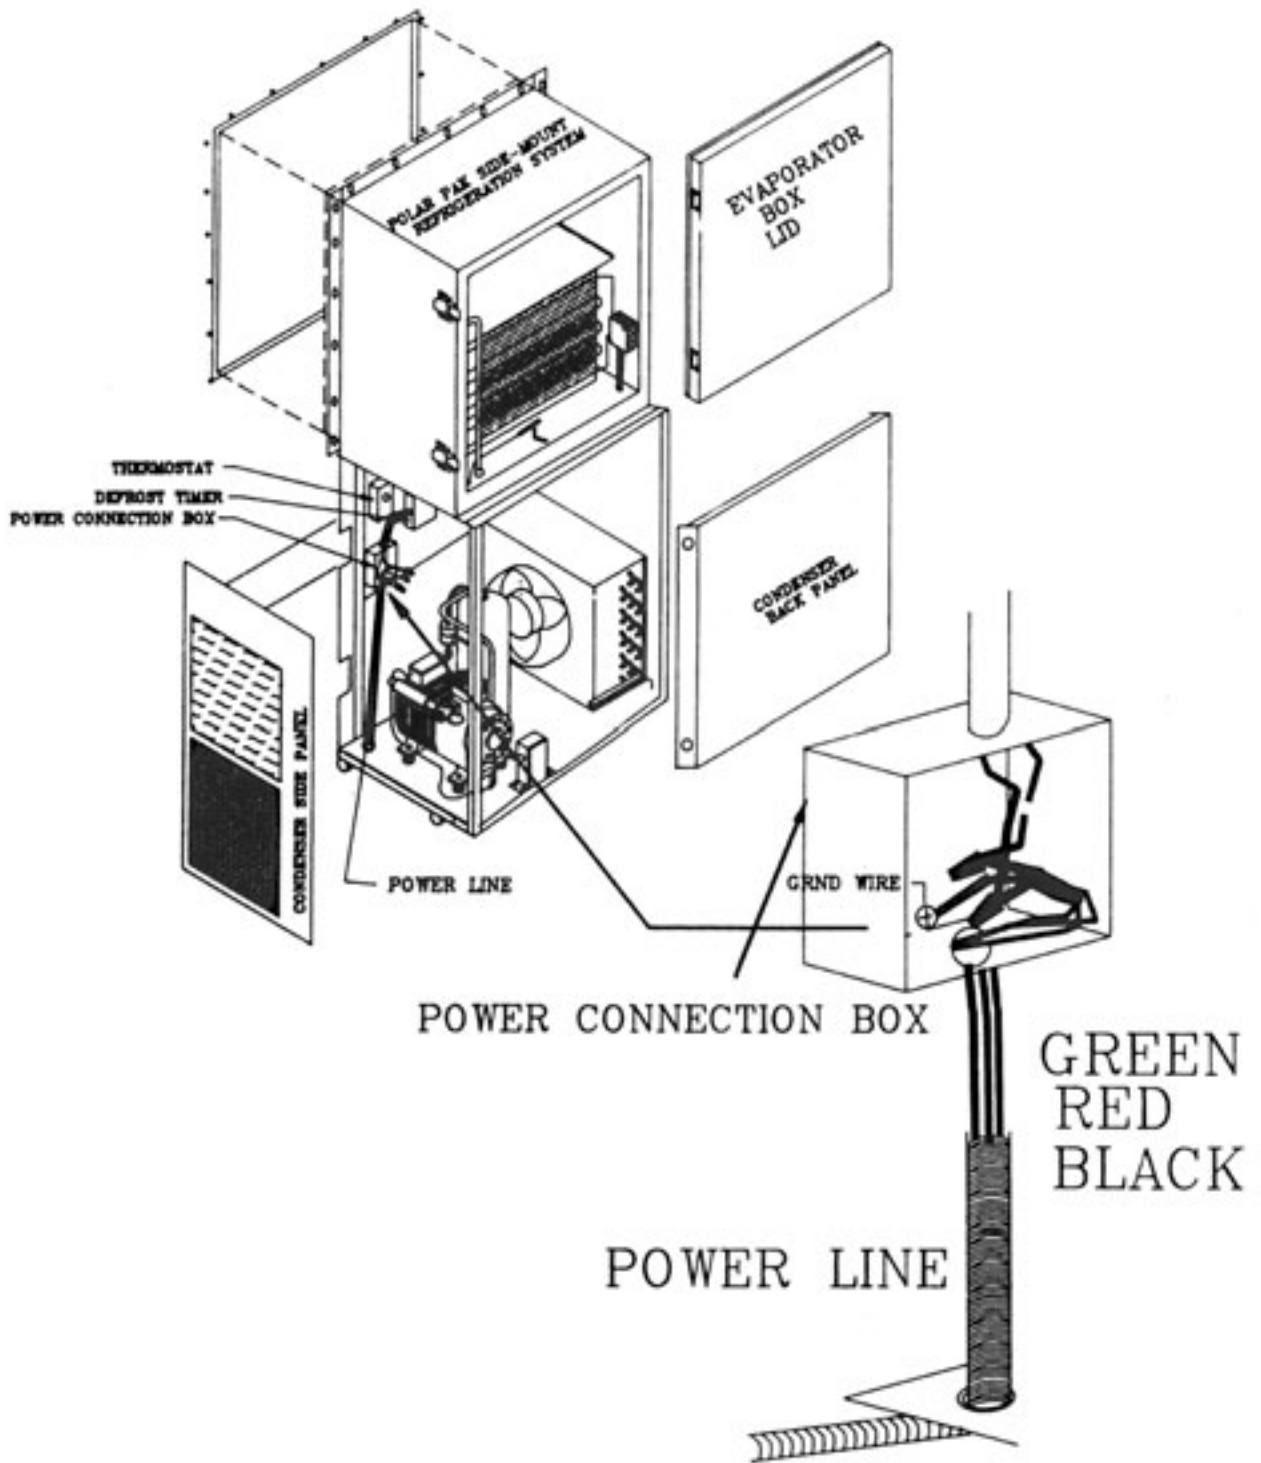

Figure 8: Power Hook-up for Polar-Pak Side Mount FREEZERS.
- Locate the power connection junction box. Refer to Fig. 8.
- Feed the power line through the circular opening on the bottom of the condensing unit. Connect one end to the pigtails in the unit power junction box and the other end to a properly sized electrical outlet with an appropriate overcurrent protective device. Consult the unit nameplate for power requirement. Fig. 8 shows the wiring illustration.